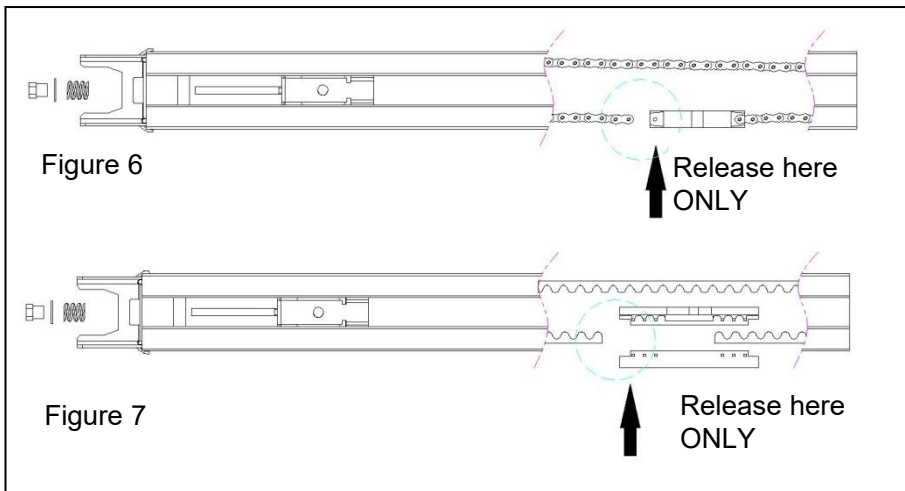

Figure 6
(Chain - Figure 6, Belt - Figure 7)
**Remark:** Only release the Chain or Belt from the side which is exactly like Figure 6 & Figure 7.